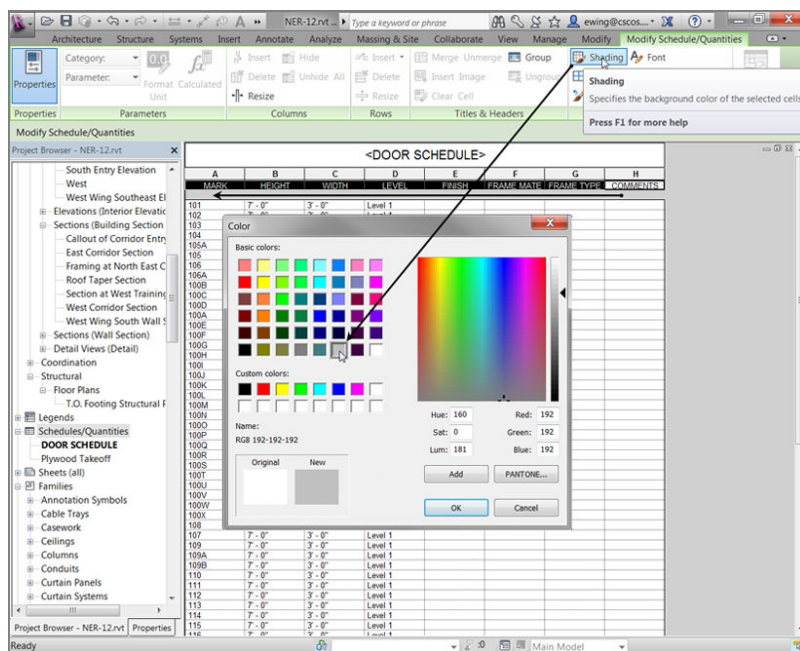

FIGURE 11.5: Edit all the field names, and change the shading of the row.
1. Because you never use lowercase lettering, click into the header and title rows and change the names to all capital letters, as shown in Figure 11.5.
3. With the cells highlighted, click the Shading button (see Figure 11.5).
4. Change the shading to the gray basic color shown in Figure 11.5.